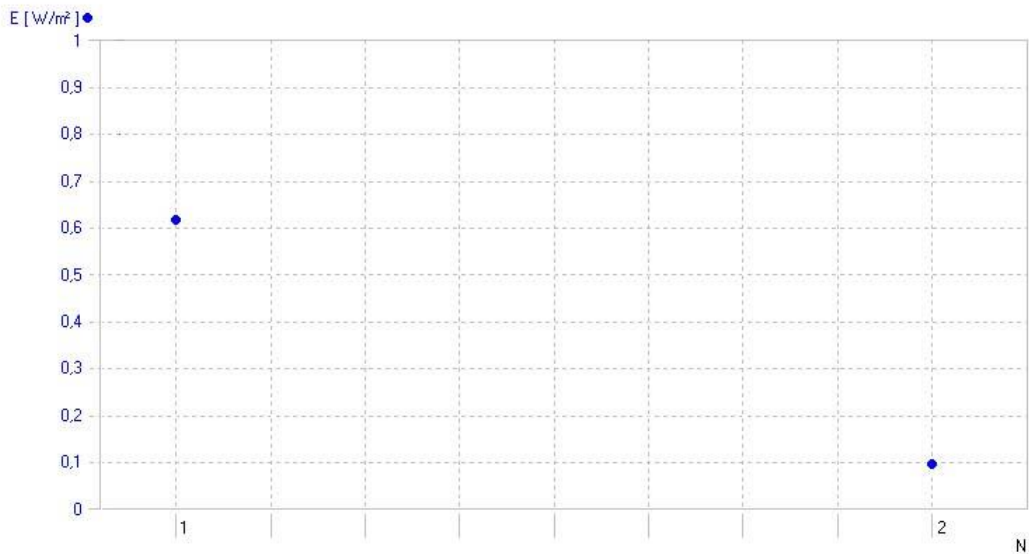

Fig. 3 Measurements as displayed on screen in 3B NET/ab™ from above experiment
- Make a graph of the two measurements to show the effect of the lens (Fig. 3).